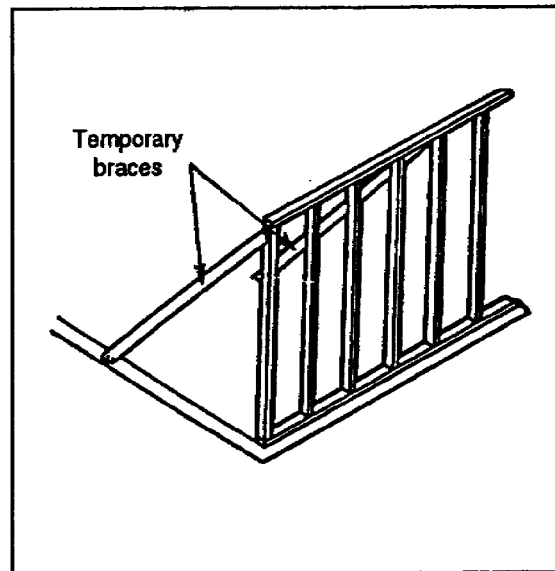
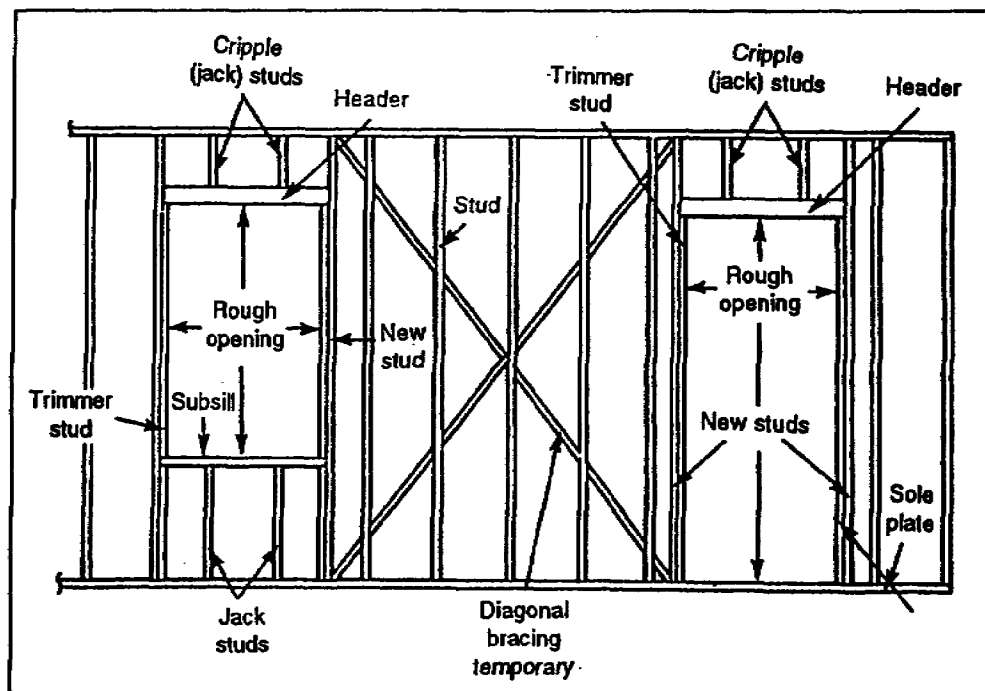

Figure 2-9. Temporary bracing
Figure 2-10. Temporary diagonal bracing
d. Temporary Bracing. Temporary bracing is placed at intervals small enough to hold the wall straight (see Figure 2-9). Bracing placed diagonally on the studs running from the sole plate to the top plate will increase the strength of the wall against horizontal stress (see Figure 2-10).